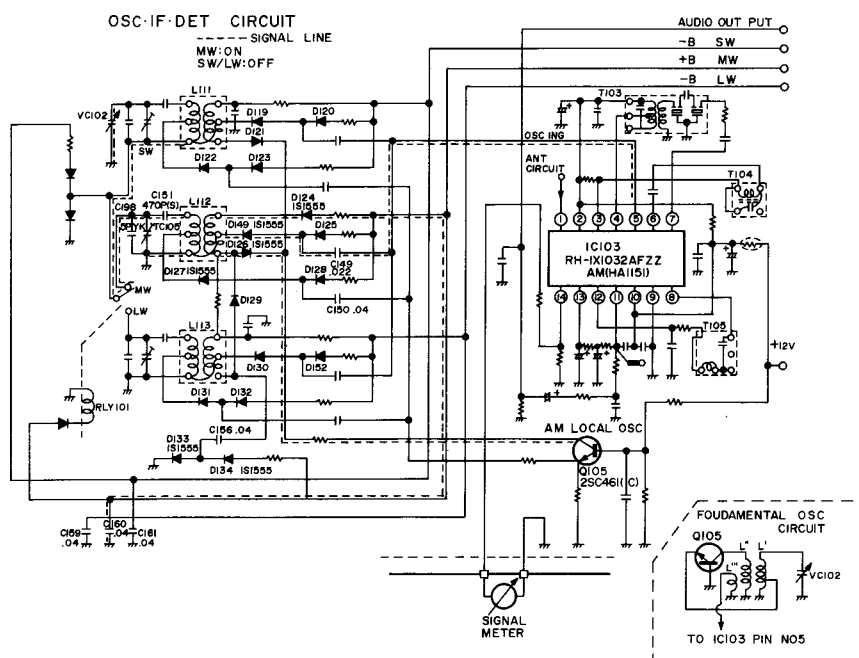

Figure 17-2
2.1.2 AM Oscillation/IF Circuit (Refer to Figure 17-2)